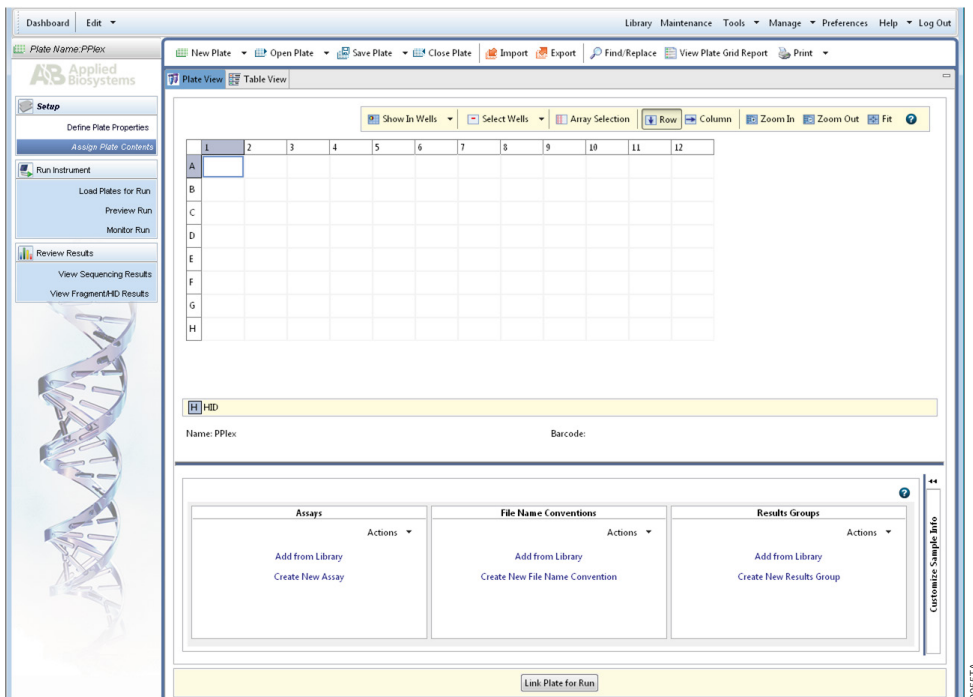

Figure 9. Assigning plate contents.
5. Select **Assign Plate Contents** (Figure 9).